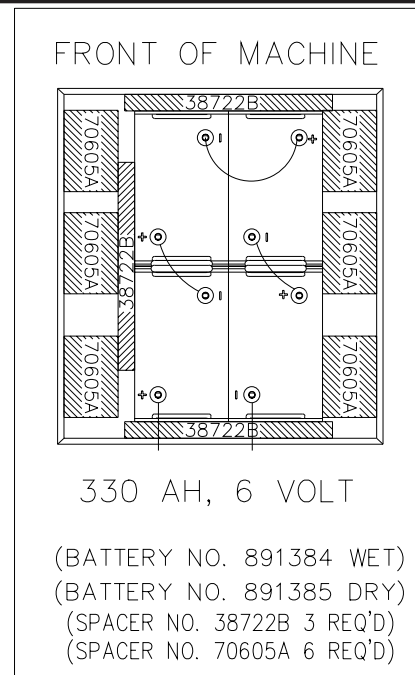

Figure 6a
6. Place the batteries in the solution tank as shown in figure 6a or 6b.
7. Connect the battery cables between batteries and install long battery cable assembly as indicated. See figure 6a or 6b.